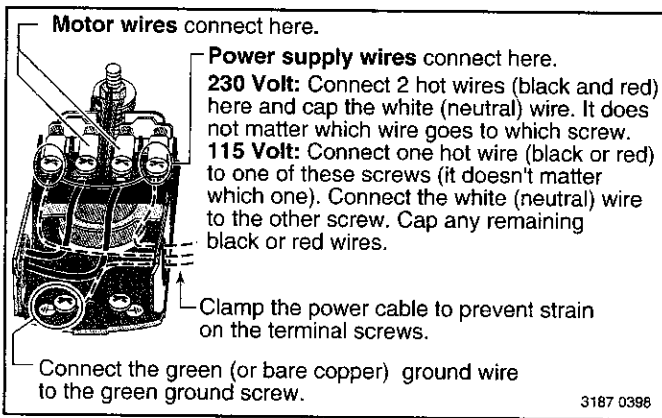

Figure 10 – Pressure switch wiring
1. Connect the ground wire first as shown in Figure 10. The ground wire must be a solid copper wire at least as large as the power supply wires.
4. Connect the power supply wires to the pressure switch as shown in Figure 10.